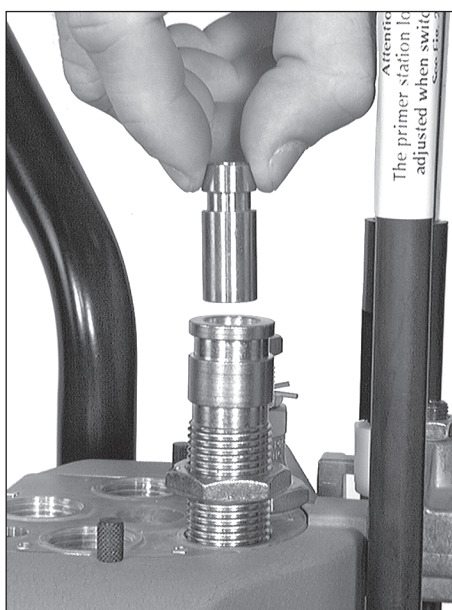

FIG 91
4. Insert the funnel into the die FIG 91. Regardless of whether you're using a rifle or pistol powder funnel, make sure that you insert the funnel into the die with the grooved end up. It should move up and down freely.